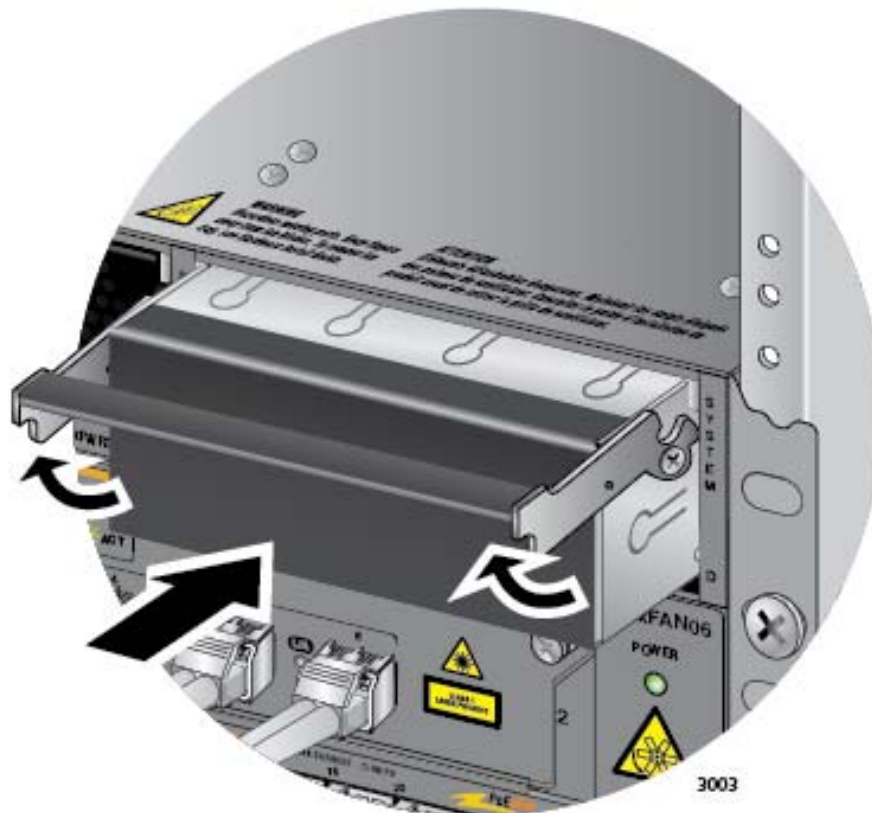

Figure 150. Installing a Blank Power Supply Slot Cover
5. Place the locking handle on the slot cover in the up position and slide the cover into the empty power supply slot. Refer to Figure 150 on page 242.